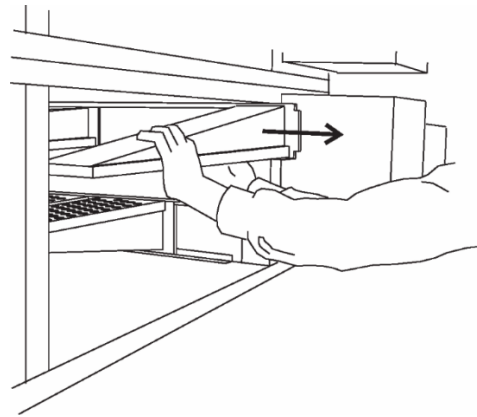

Figure 26. Removing Air Fingers and Plates
6. Slide the air fingers and blank plates out of the oven, as shown in Figure 26. AS EACH FINGER OR PLATE IS REMOVED, WRITE A "LOCATION CODE" ON IT WITH A MARKER to make sure that it can be reinstalled correctly.